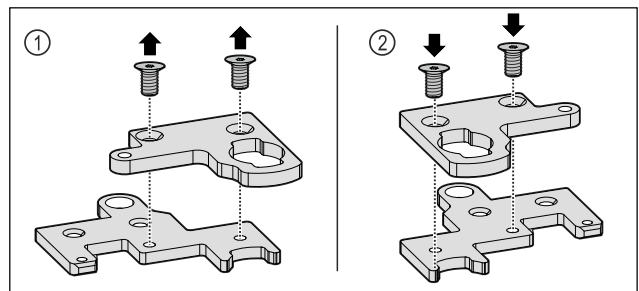

Fig. 35
- ▶ Disassemble the two-part hinge angle bracket. Fig. 35 (1)
- ▶ Turn the two-part hinge angle bracket 180° (180°) and then reassemble it. Fig. 35 (2)